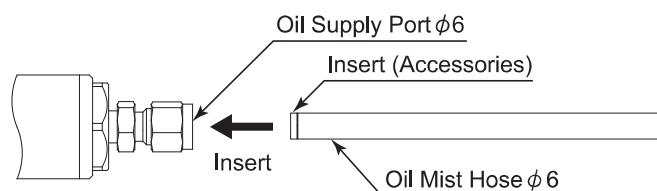

Fig. 16
- (2) Insert the Oil Mist Hose of (1) into the Oil Supply Port ($\phi 6$) on the rear of the Brushless Motor Spindle (Fig.16).